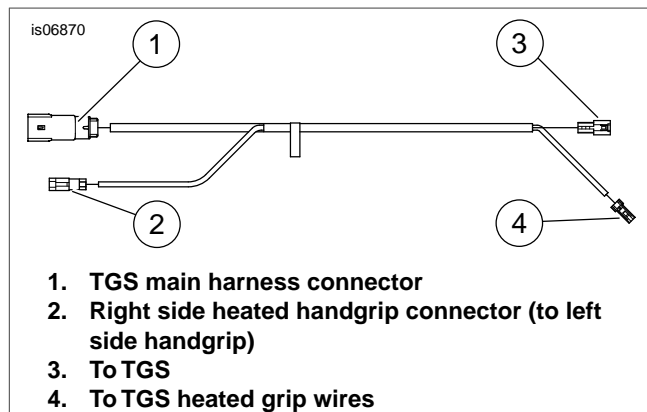

Figure 3. TGS Jumper Harness
4. See Figure 3. Attach **NEW** TGS jumper harness to TGS.
- a. Connect connector (3) to TGS harness.
- c. Connect connector (4) to heated grip connector.